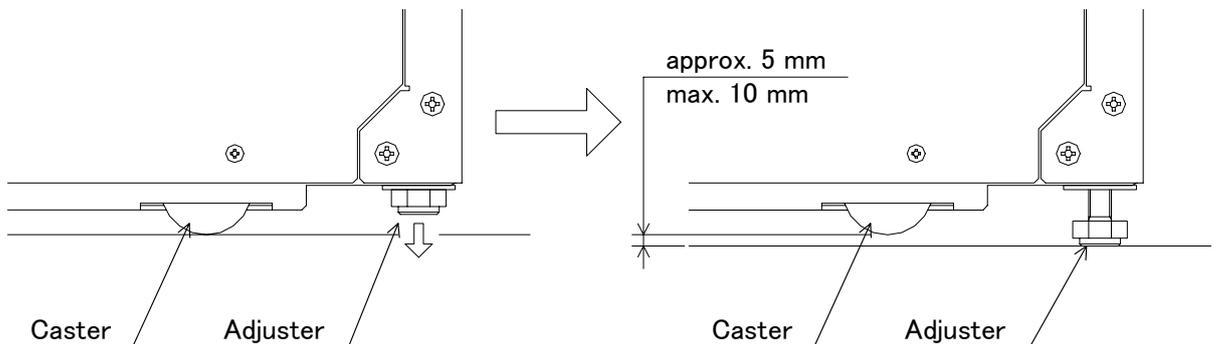

Fig.4.3 Procedure for Adjusting Adjuster
- * When fixing the pump, adjust the adjuster so that the 4 casters may float above the floor (approx. 5mm or 10 mm max.) (Fig. 4.3)